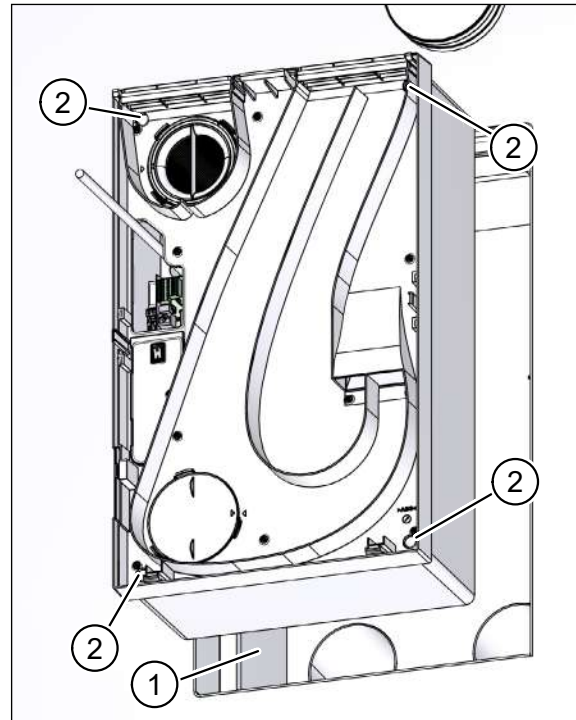

Fig. 44: Fixing the ventilation unit – U2 integrated into wall installation
- ▶ Carefully push the ventilation unit as far as it will go into the wall box (item 1 in Fig. 44).
- ▶ Use the four cross-head screws (item 2 in Fig. 44) to fix the ventilation unit. **Lightly** tighten the screws using a diagonal sequence.